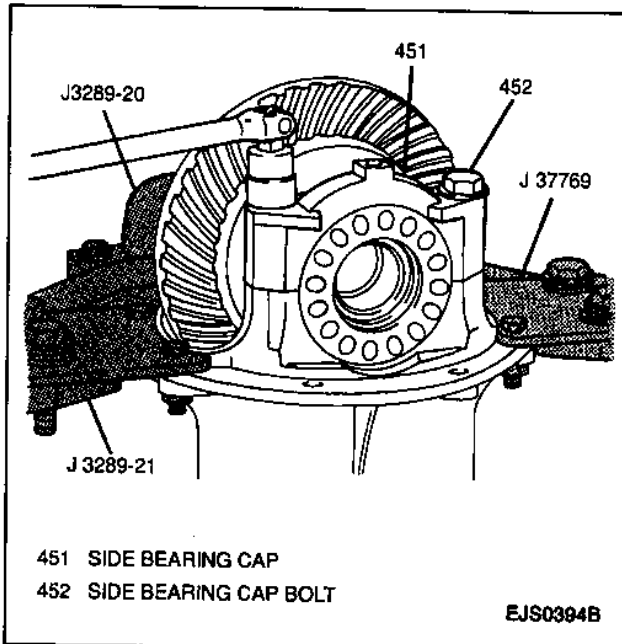

Figure 39—Removing Side Bearing Cap Bolts
5. Four bolts and side bearing caps from differential carrier (Figure 39).